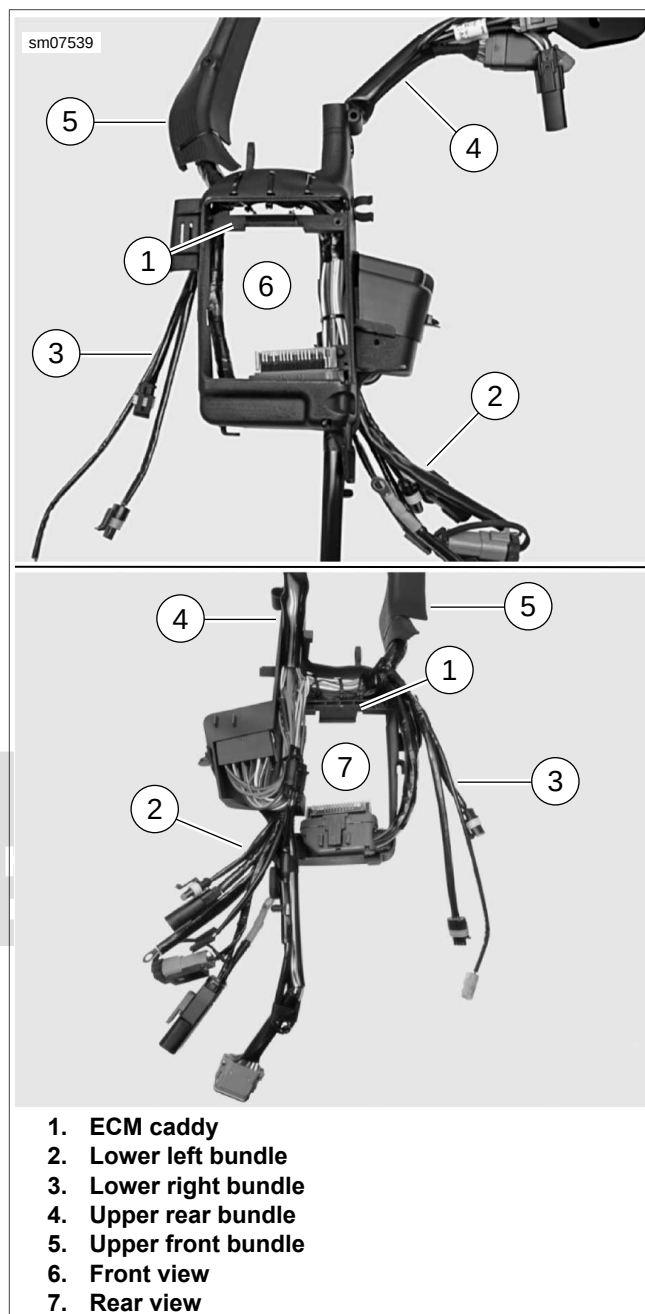
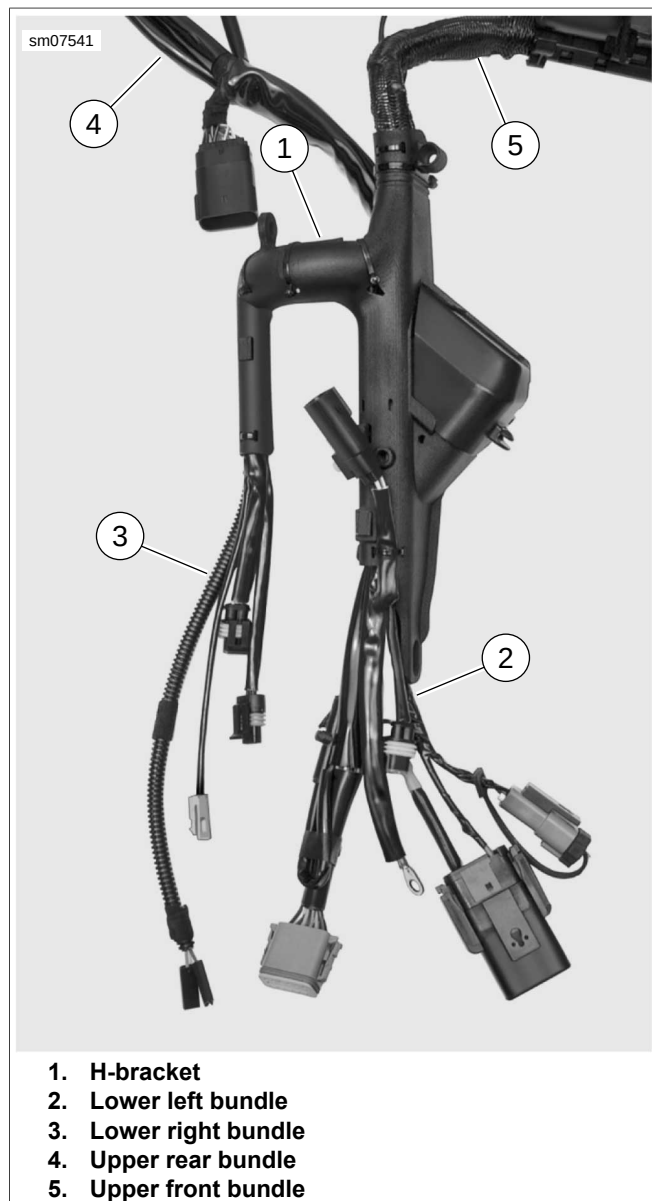
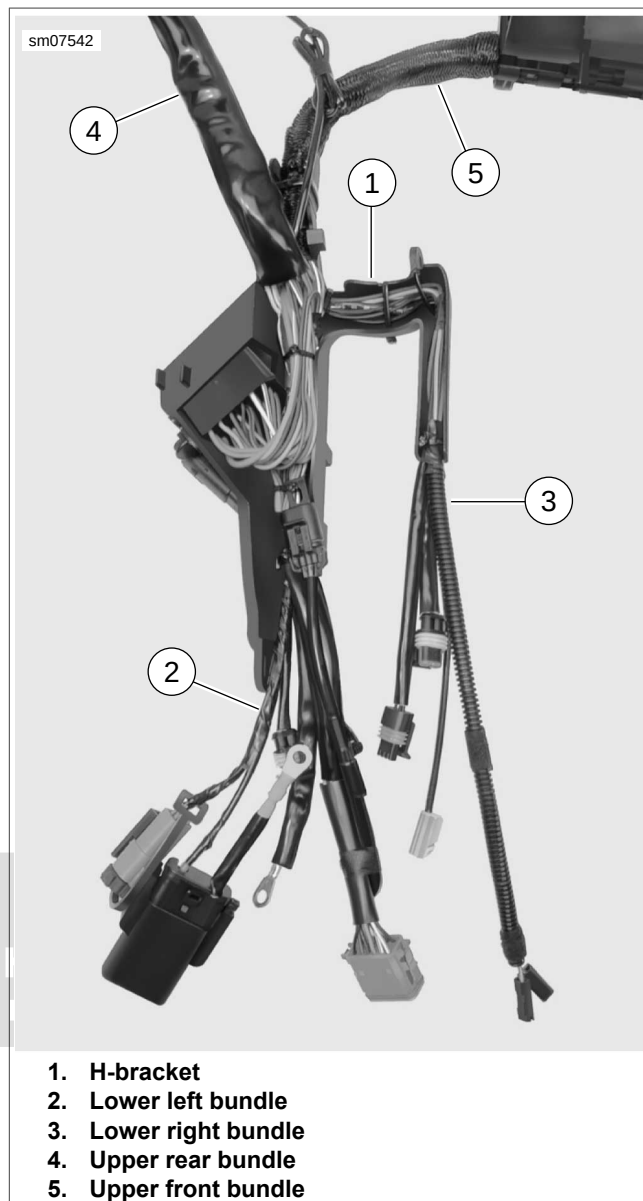

Figure 6-104. Main Wiring Harness: XL Models
Figure 6-105. Main Wiring Harness, Front: XR 1200X
Figure 6-106. Main Wiring Harness, Rear: XR 1200X
See Figure 6-104, Figure 6-105 or Figure 6-106. The main wiring harness can be divided up into four bundles, originating at the ECM caddy (XL models) or H-bracket (XR 1200X) (1). These bundles are:
**Lower left bundle (2)** including:
**Lower right bundle (3)** including:
- See Figure 6-104, Figure 6-105 or Figure 6-106. Loosely position **new** main wiring harness on vehicle. From left side, slide ECM caddy (XL models) or H-bracket (XR 1200X) (1) into position on rear frame downtube. Guide each wire bundle toward its respective area on the vehicle during installation. Verify lower right bundle (3) feeds out toward right side of vehicle.
- XL Models:** Verify upper front bundle (5) with wire harness caddies feed out toward right side of vehicle. Install ECM caddy. Verify hook on ECM caddy engages tab on oil tank bracket. Tighten ECM caddy fasteners to 72-96 **in-lbs** (8.1-10.8 Nm). See 6.6 ELECTRONIC CONTROL MODULE \(ECM\).
- Feed upper rear bundle (4) up over top of oil tank. Verify engine sub-harness also feeds up into that area.